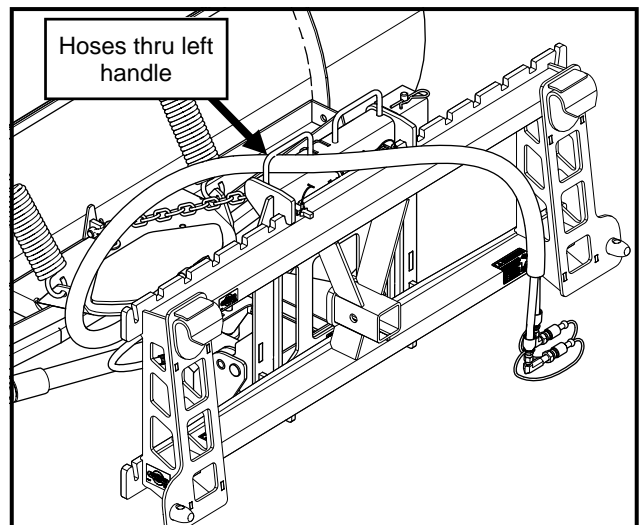

Fig. 9.3—Plow Hoses to Diverter Kit
- 9.3** Route the free end of the hydraulic hoses through the left handle of the mounting frame and connect to the front manifold of the Diverter Kit. Match the yellow and black capped hoses to the same colors on the diverter kit. See Fig. 9.3.